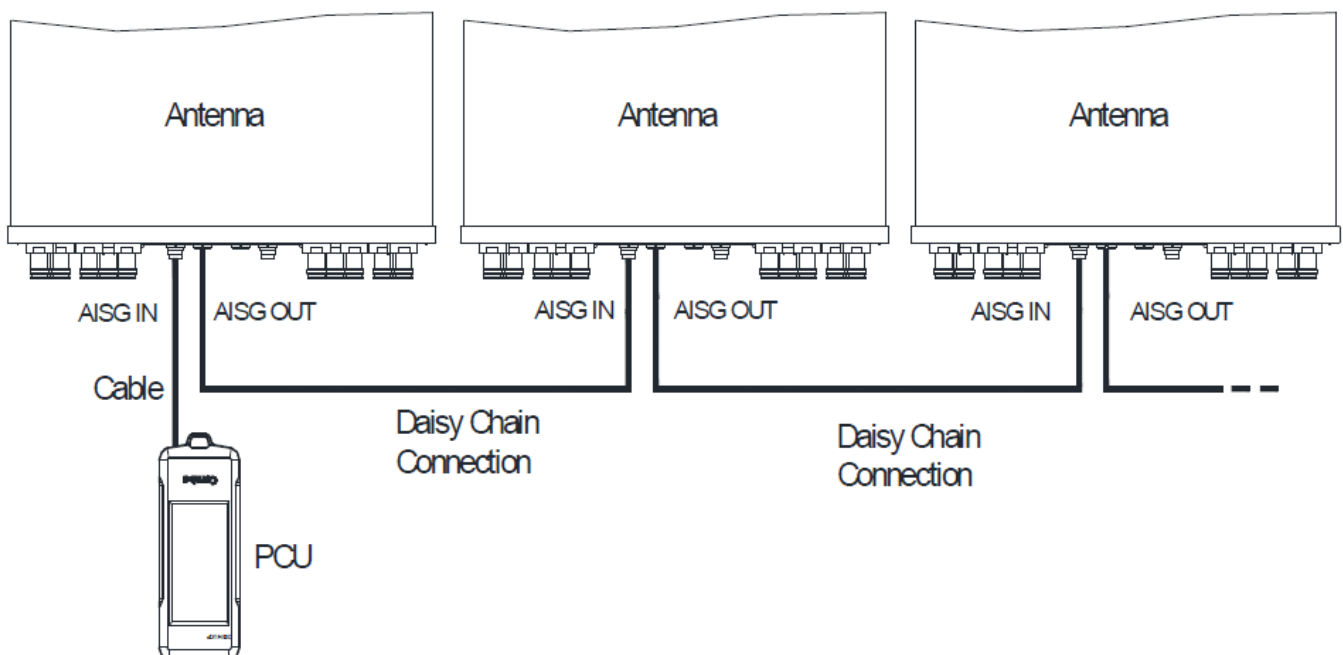

Figure 5 Multiple MIRCUCU Daisy-Chain Cascade Schematic Diagram
d) If there is more than one MIRCUCU need to be connect, daisy-chained cascade method can be used as show in Figure 5.